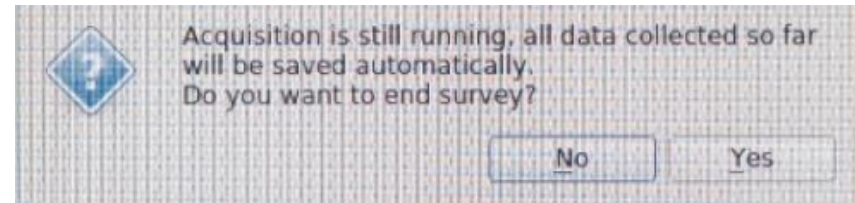

Fig. 78 – End survey confirmation message.
-  Click the button to stop the current project and go back to the main menu. In this case, If the acquisition is still running () , a message appears as in Fig. 78